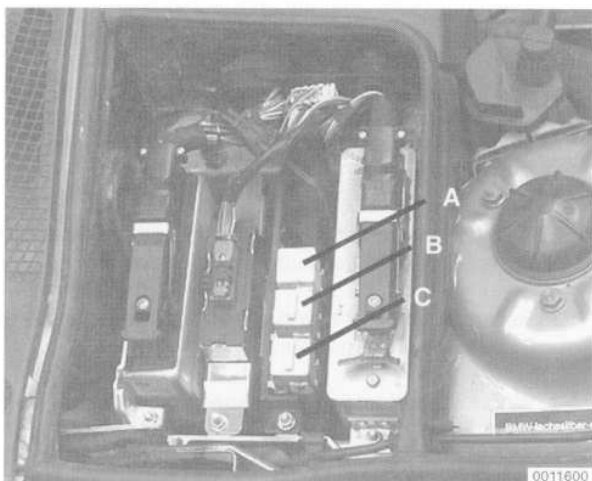

Fig. 4. Main relay (A) in electronics box (E-box), V8 relay position varies. Check sticker on E-box cover for V8 position.
1. With the ignition off, remove the main relay. See Fig. 4.